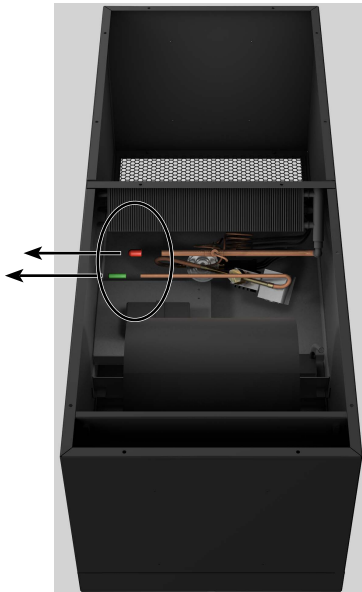

Figure 1
1. Place the evaporator on a working table with the Top Access Panel facing up as shown in Figure 1.